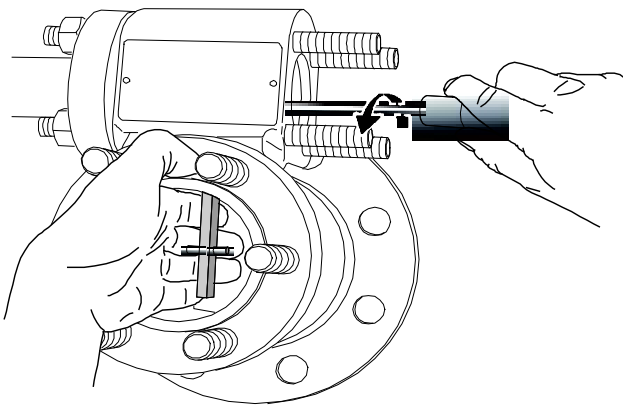

Figure 22
9.3. REMOVAL OF 12400 CASE AND TORQUE TUBE SUB-ASSEMBLY (SEE FIGURES 22 & 23)
CAUTION: To remove the displacer, the torque arm must be removed. When the two arm screws (133) are loosened, hold the torque arm so as not to damage the torque tube (Figure 22).
- c. Remove the upper flange (146) and blind flange (144).
- d. Lower the torque arm (135) and unhook the displacer (130). A hook-shaped 3 mm steel wire facilitates unhooking and holding of the displacer. The wire may be inserted through the clevis hole.
- e. Remove the two torque arm screws (133) and remove the torque arm (135) from the chamber.
- f. Remove the displacer from its chamber (131) or tank.
- g. Be sure that requirements for instruments installed in explosive areas are strictly followed. Remove screw (106) from connection compartment and unscrew cover (104). Disconnect supply electrical wires and other equipment from terminals (90).
- h. Remove nuts (142) holding the torque tube subassembly and slide the subassembly out of the mechanism chamber.
For installation, reverse the procedure outlined for removing a DLT case and torque tube sub-assembly (section 9.3). It is recommended that new gaskets (143 -149) be used when installation is performed (see figure 22).